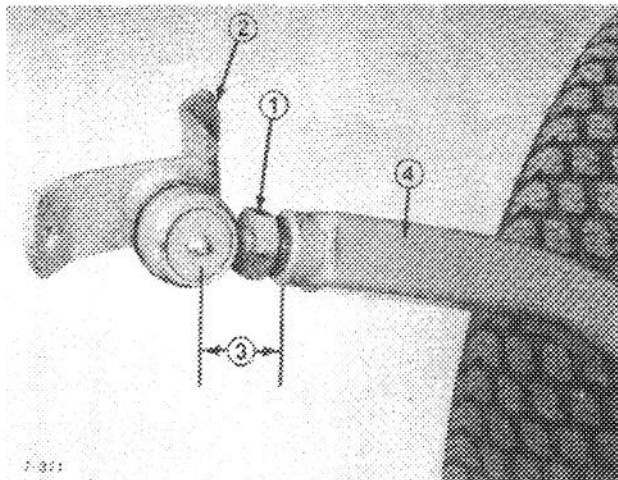

Figure 18
2. Screw ball joint into right hand push arm until center of ball joint is 2-3/8 inches (60 mm) away from front of push arm (Fig.18). Do not tighten jam nut.